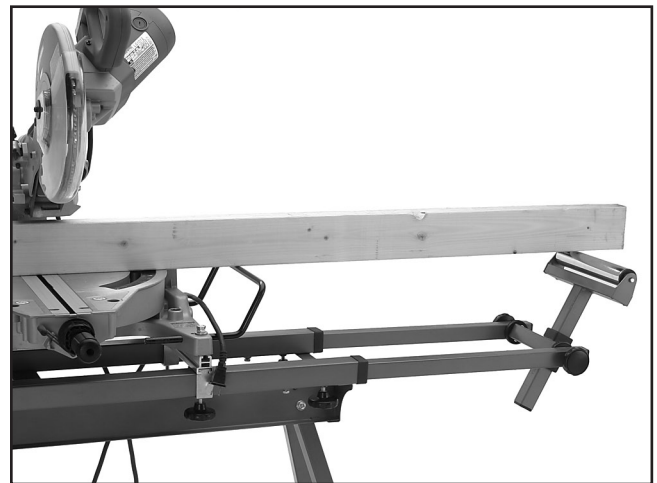

Figure 6. Adjusting the support rollers.
2. Loosen the crossbar knobs and rotate the roller assemblies until the rollers almost touch the 2x4 as shown in **Figure 6**. Then loosen the roller assembly lock knobs and slide the rollers up to touch the 2x4.